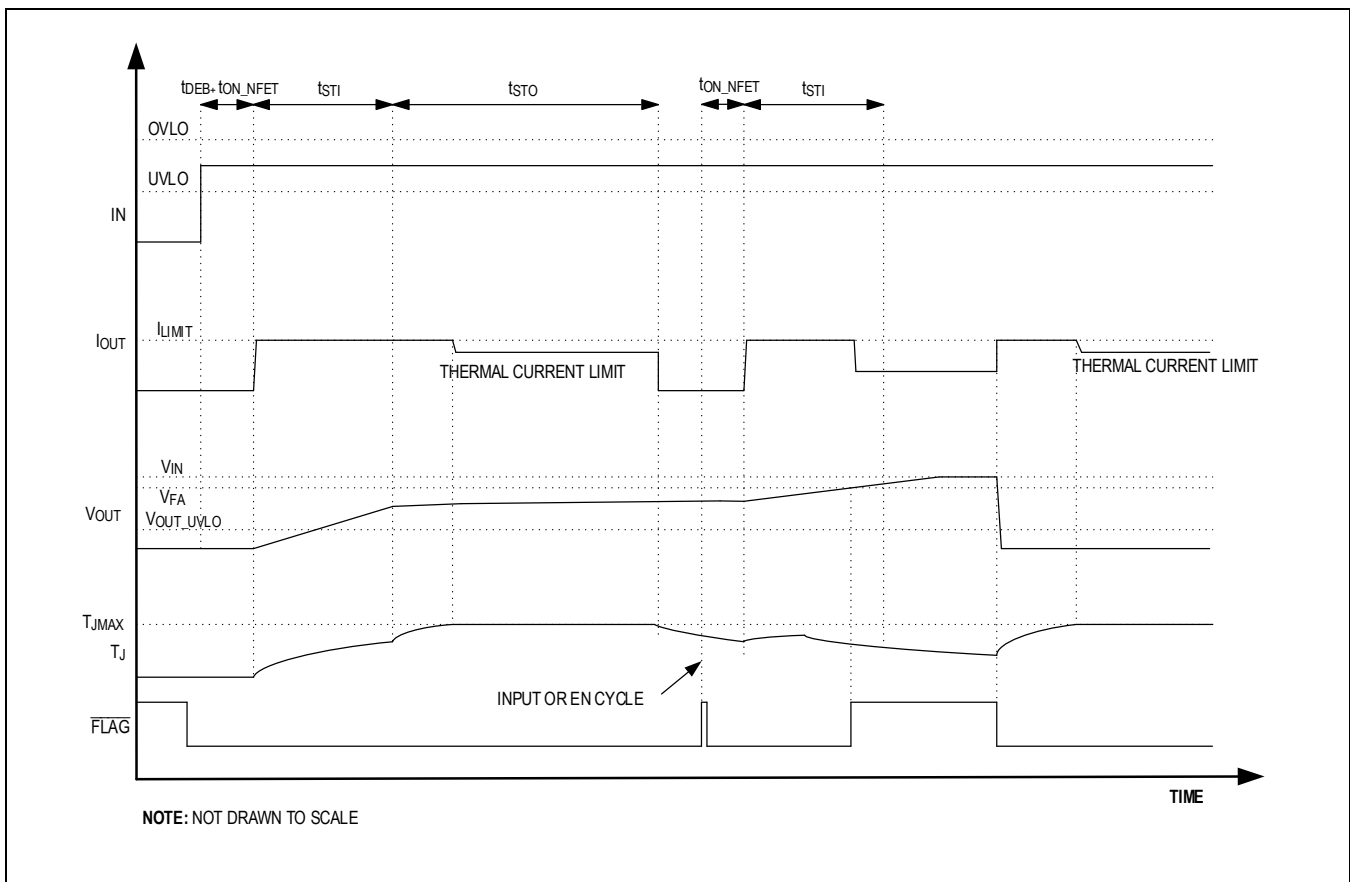
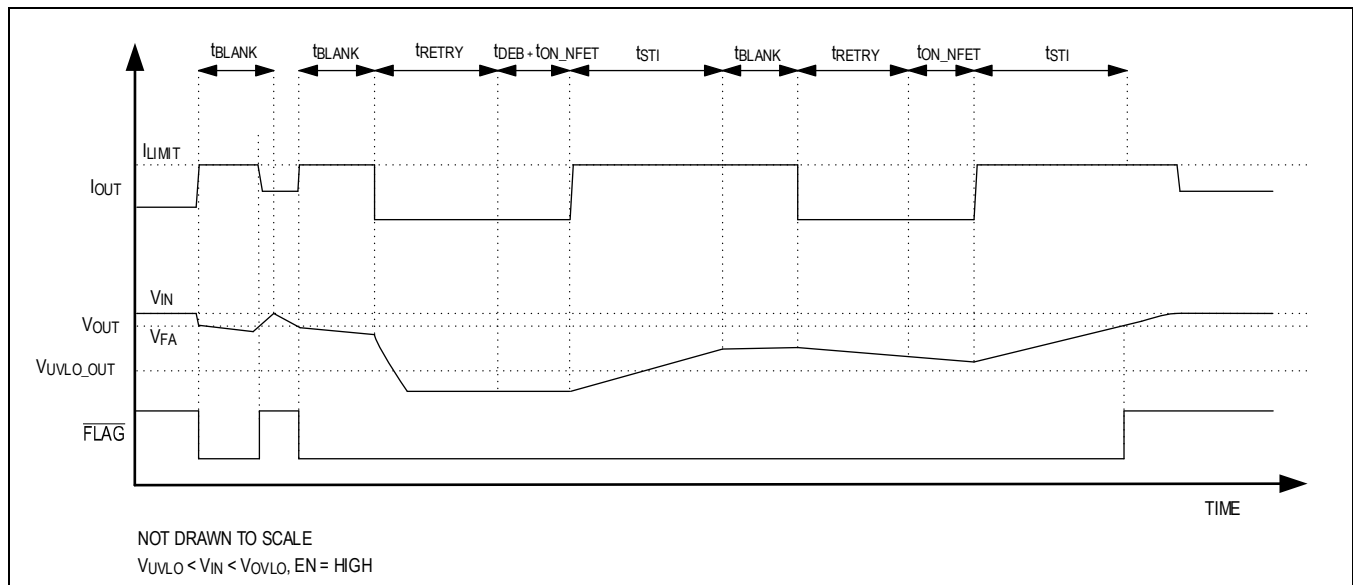
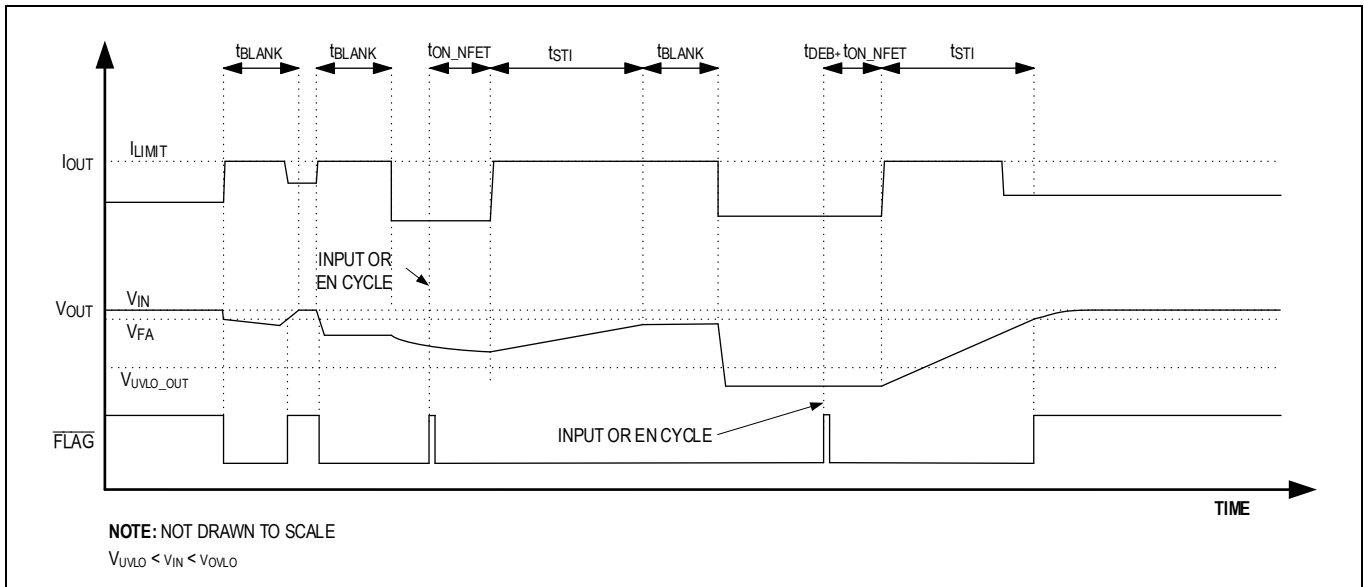

Figure 16. Continuous-Fault Timing Diagram
Figure 17. Fault Timing Diagram
Figure 18. Latchoff-Fault Timing Diagram
In continuous current-limit mode, when current through the device reaches the current-limit threshold, the device limits the current to the programmed current limit. The FLAG pin asserts when the voltage drop across the internal switch rises above  $V_{FA}$ , and deasserts when it falls below  $V_{FA}$ . Figure 16 depicts typical behavior in continuous current-limit mode.
With a 24ms (typ)  $t_{\text{BLANK}}$ , 24ms (typ)  $t_{\text{STI}}$ , and 720ms (typ)  $t_{\text{RETRY}}$ , the duty cycle is 6.25% resulting in 93.75% power reduction when compared to the switch being on the entire time. Figure 17 depicts typical behavior in the autoretry current-limit mode.
In latch-off current-limit mode, when current through the device reaches the current-limit threshold, the  $t_{\text{BLANK}}$  timer begins counting. The FLAG pin asserts when the voltage drop across the internal switch rises above  $V_{\text{FA}}$  and deasserts when it falls below  $V_{\text{FA}}$ . The timer resets if the overcurrent condition disappears before  $t_{\text{BLANK}}$  has elapsed. The switch turns off and stays off if the overcurrent condition continues beyond  $t_{\text{BLANK}}$ . To reset the switch, either by holding the control logic (EN) below 0.4V for at least 30 $\mu\text{s}$  (typ) or cycle the input voltage. Figure 18 depicts typical behavior in latch-off current-limit mode.
The thermal shutdown behaves similarly to the current limit. In mode, the thermal shutdown works with the autoretry timer. When the junction temperature falls below the falling thermal shutdown threshold, the device turns on after the  $t_{\text{RETRY}}$ . In latch-off mode, the device latches off until either the input power is cycled or the EN pin is toggled. In continuous mode, the device is only turned off when the temperature is over the limit and turns back on after  $t_{\text{DEB}}$  when the temperature reaches the falling thermal-shutdown threshold. There is no blanking time for thermal protection. Figure 16, Figure 17 and Figure 18 depict typical behavior under different current limit modes.